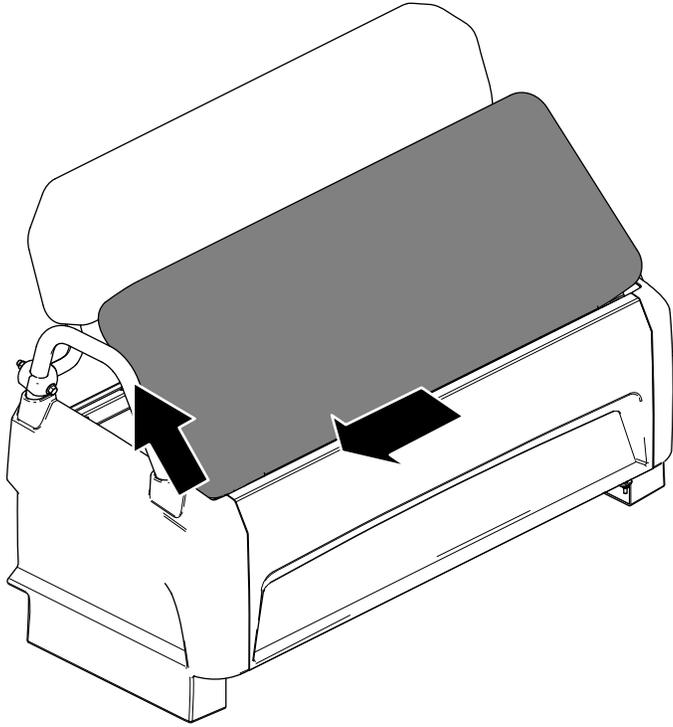

Figure 24
2. Slide the cushion to the side, out of the pins, and lift the cushion upward (Figure 24).